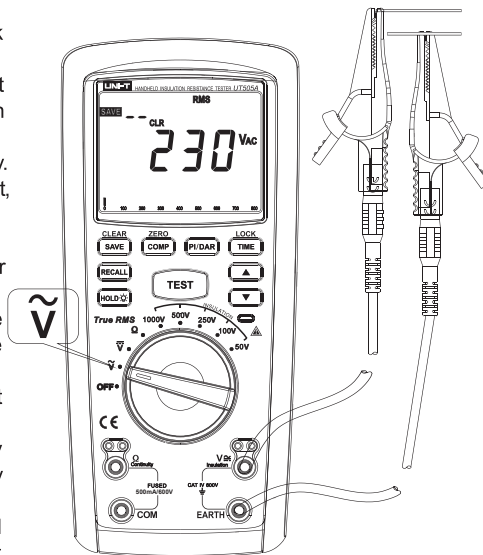

Figure 4
1. Measurement of AC voltage (See Figure 4)
- ① Insert red test pen in “ \sim V” jack (red hole) and black test pen in “EARTH” jack (black hole).
- ② Push the rotating switch to the gear “ \sim V” and connect test pen in parallel with the power source or to both ends of the load to be measured.
- ③ Directly read the measured voltage value from display.
- ④ To save the measured voltage value during measurement, just push the button “SAVE”.